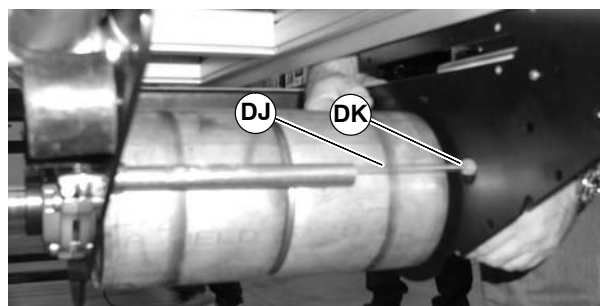

Figure 98
7. Disconnect flexible air hose (DJ of Figure 98) from fitting (DK).